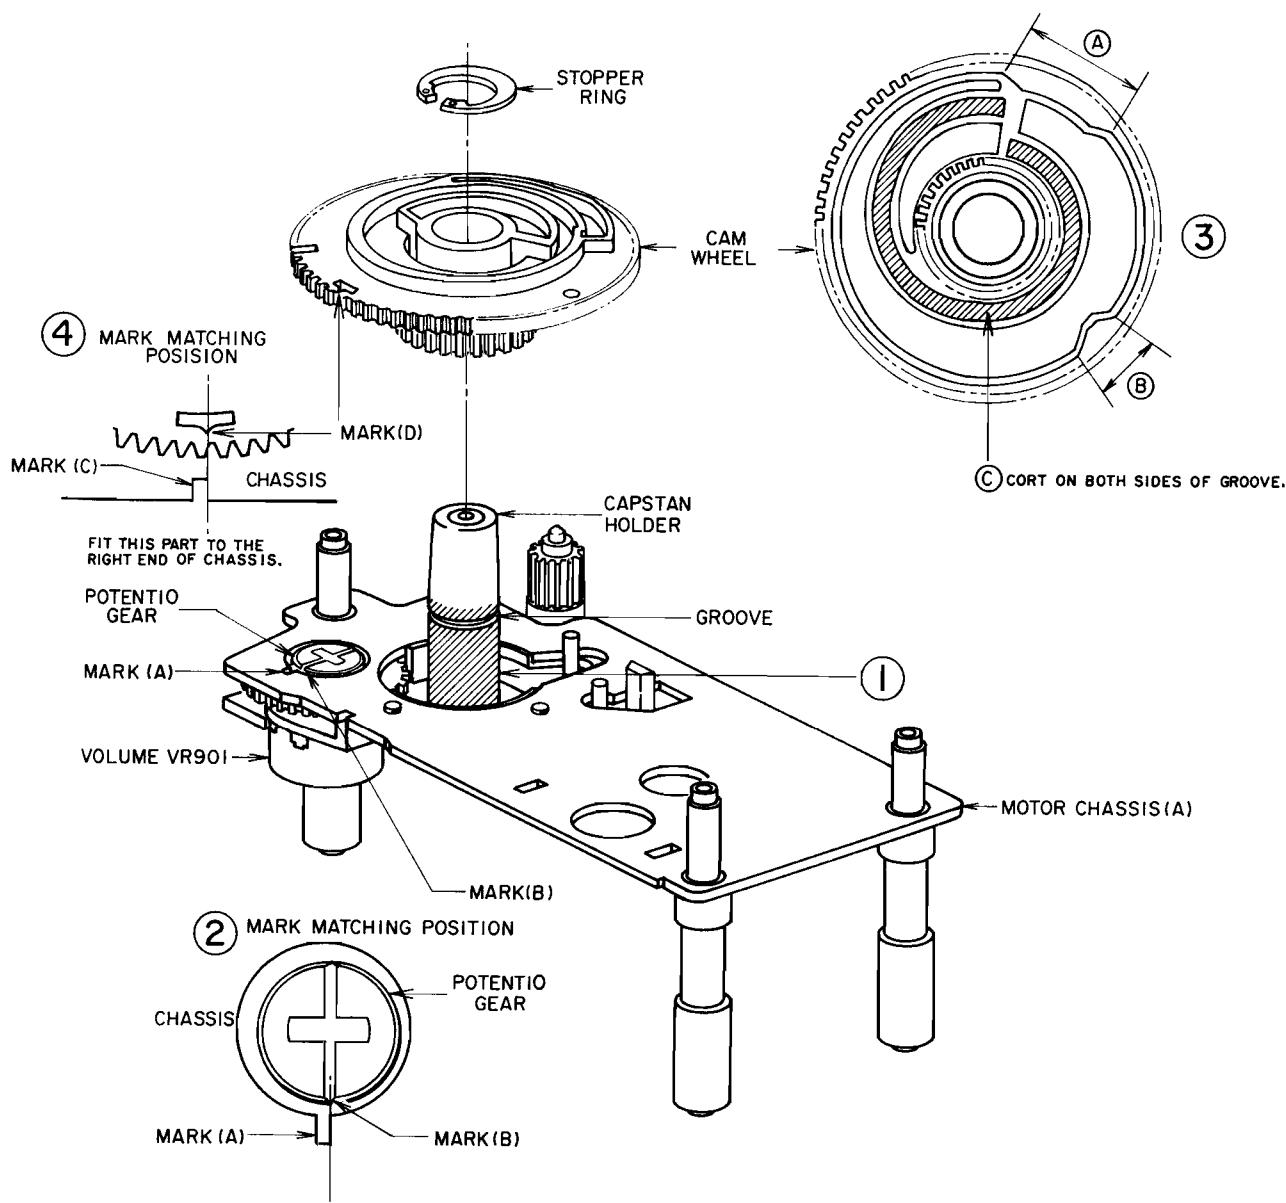

Fig. 7
Apply Molybdenum coat on the area of 360° from the bottom to the upside 2 mm of groove as shown in the figure. (Fig. 7-①)
Fit the right end of Mark (A) to the center of Mark (B) as shown in the figure. (Fig. 7-②)
- 3) Apply Molybdenum coat on Ⓐ, Ⓑ and Ⓒ shown in Fig. 7-③.
meshed properly). When the cam wheel is set properly, fit the center of Mark (D) to the right end of Mark (C). (Fig. 7-④)